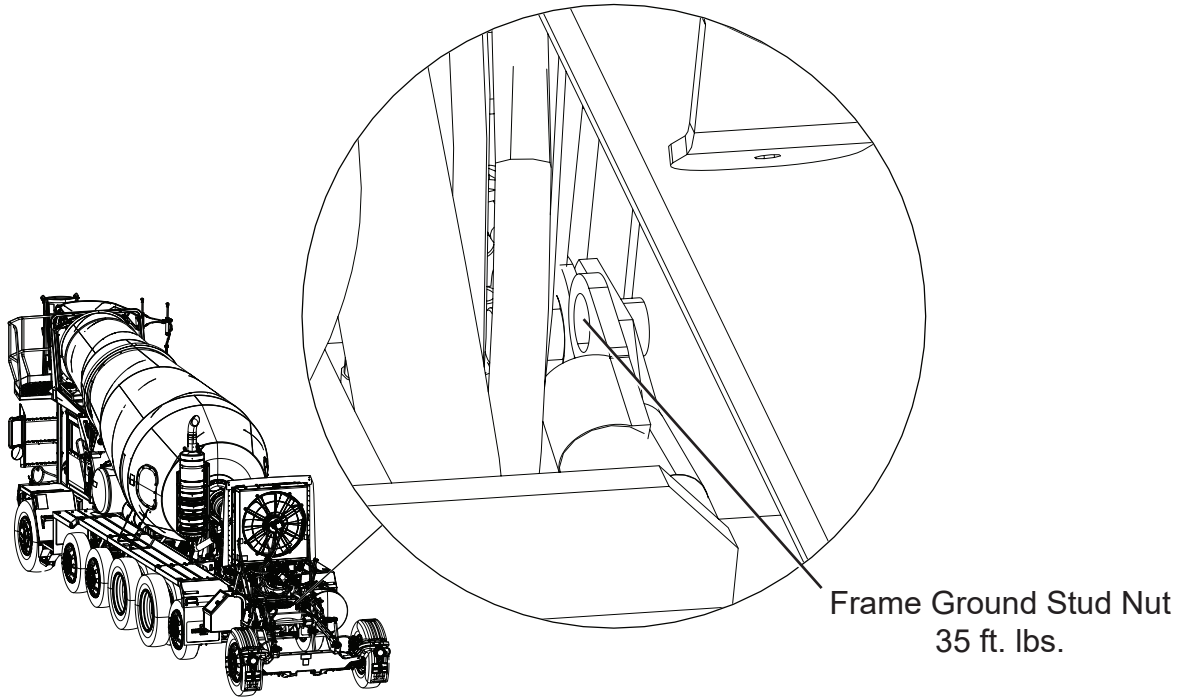

Figure 4
6. Check the frame grounding stud nut (located on the right-hand frame rail forward of the battery box) torque, see Figure 4.